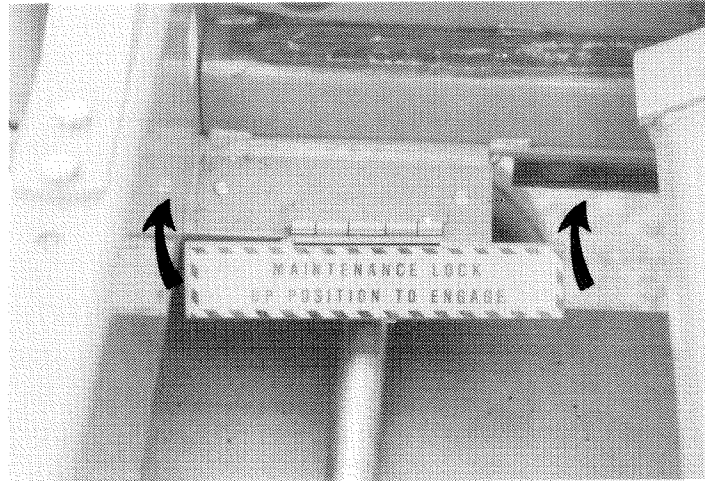

Figure 26. Engaging Maintenance Locks.
2. Raise maintenance locks, at rear inside corners of base frame so that locks are turned into the full lock position. Figure 26.